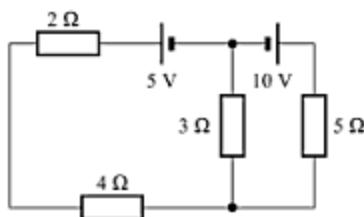

Fig. 3.72
13. Determine the current through the  $3\Omega$  resistor in the circuit shown in Fig. 3.72, by using mesh analysis. [Ans.  $I_{3\Omega} = -1.35 \text{ A}$ ]